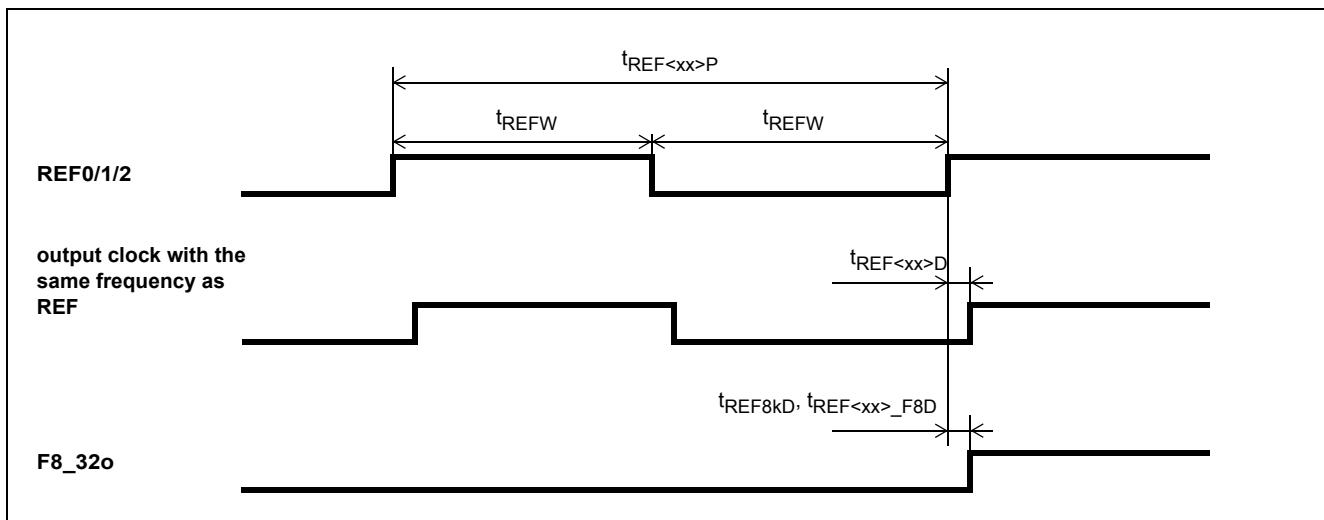

Figure 23 - REF0/1/2 Input Timing and Input to Output Timing
**AC Electrical Characteristics\* - Input timing for REF0, REF1 and REF2 references (see Figure 23).**
**AC Electrical Characteristics\* - Input to output timing for REF0, REF1 and REF2 references when TIE\_CLR = 0 (see Figure 23).**